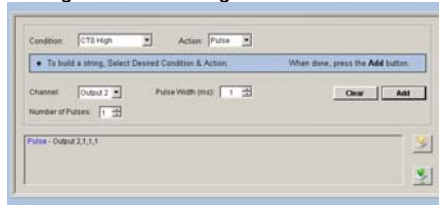

Figure 12 – Pulse
- When done, the user clicks the **Add** button to append the command to the existing user string as shown in Figure 12.